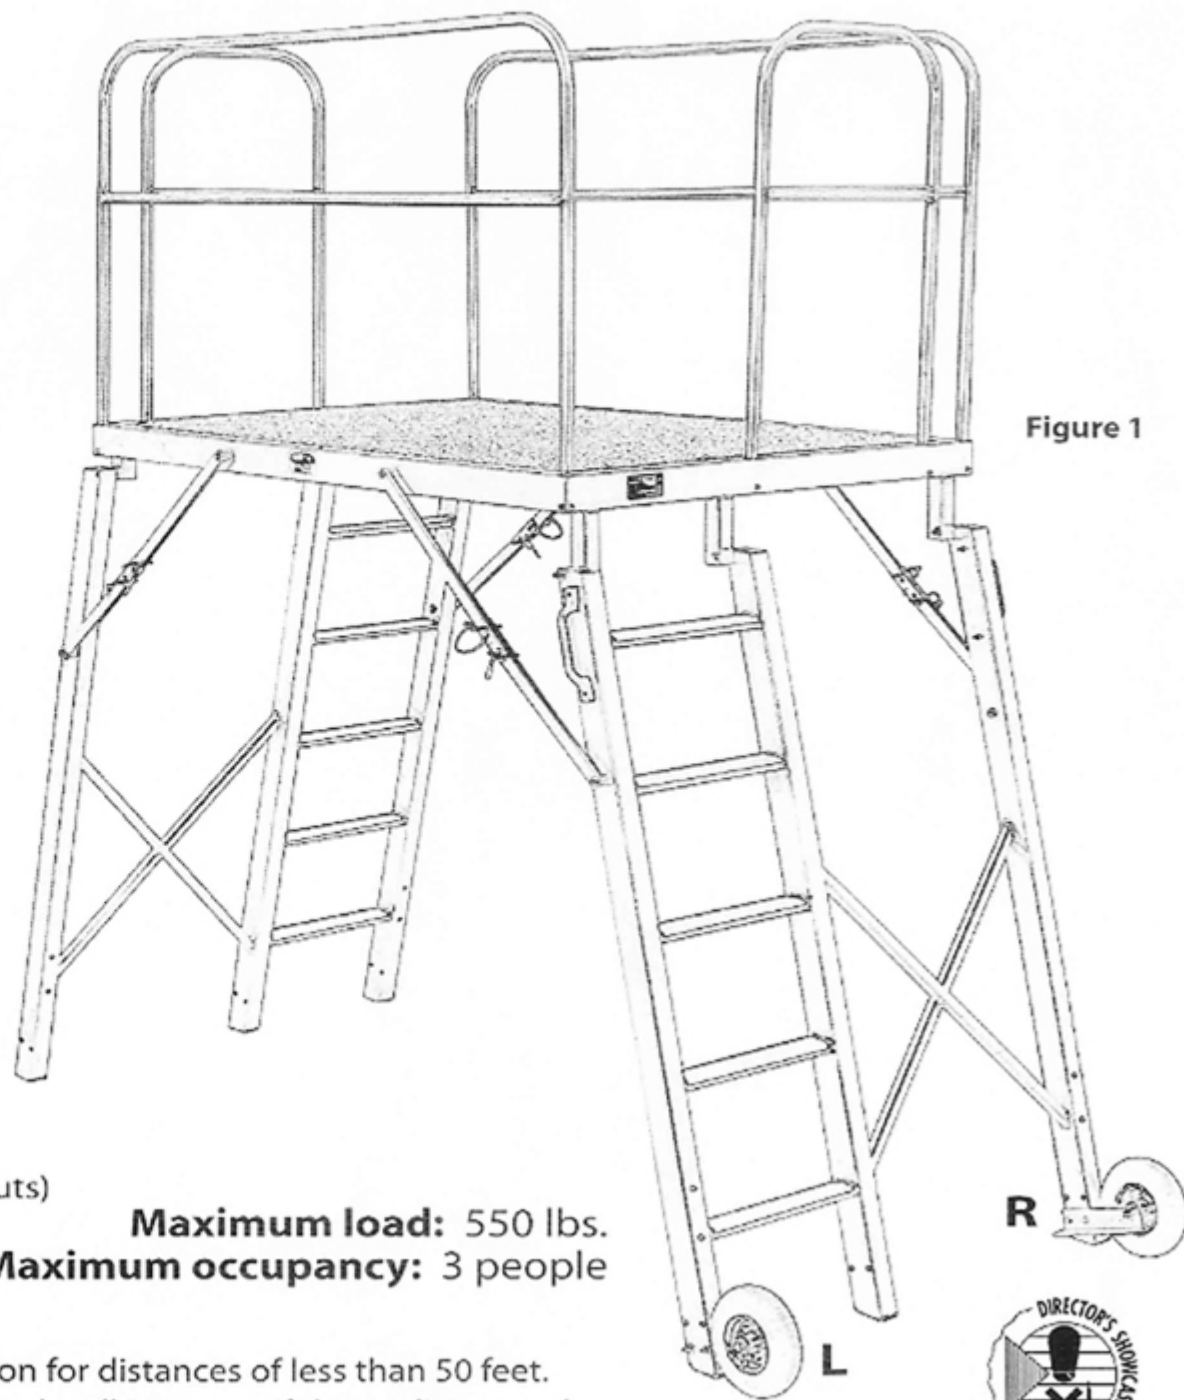

Figure 1
2. Figure 1 on the other side of this instruction sheet shows the final placement of the boundary rails.